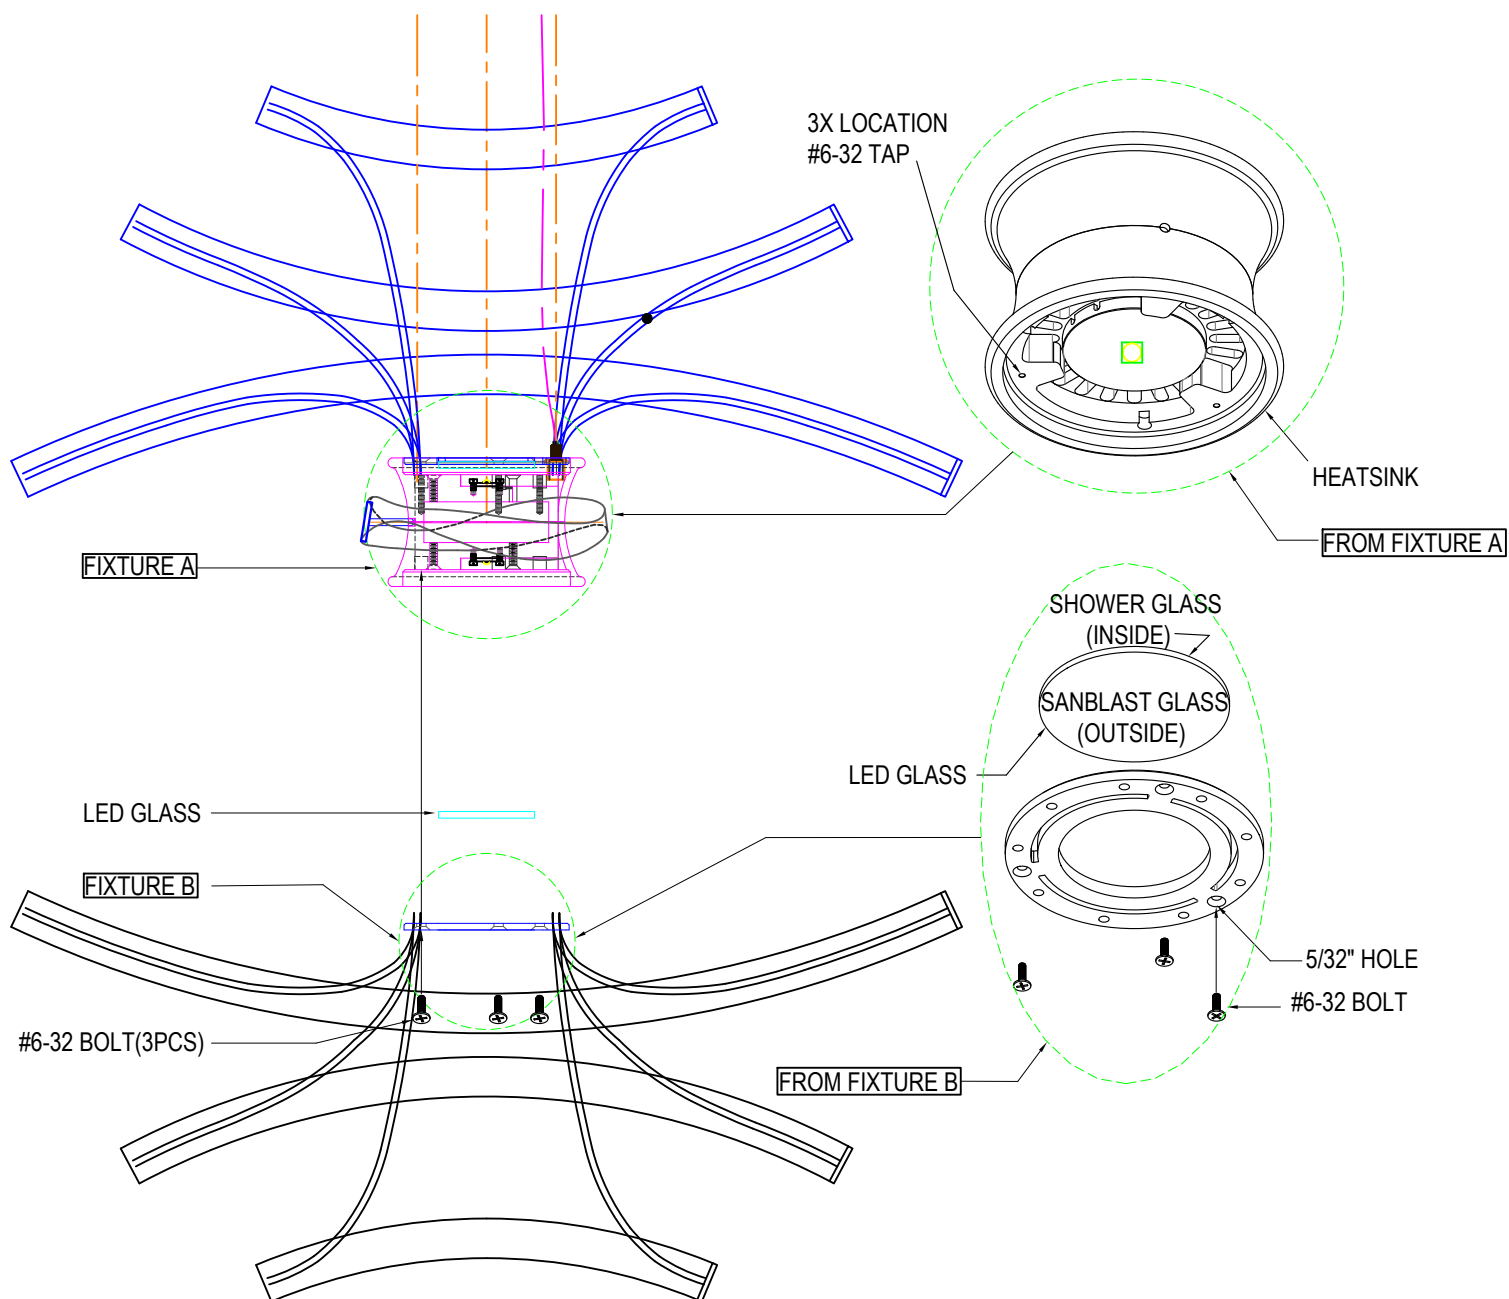

FIGURE-4
3. To change the drop height based on your desired height, push the tab down on the grip post either pull or push the aircraft cable. Repeat this to all aircraft cable until the fixture is level and with the desired height. (Refer to Figure-4)
4. Adjust the SVT wire base on the desired height. Pull/push the SVT wire to the bushing and leave 8" lead above the canopy and cut the excess wire. (Refer to Figure-4)